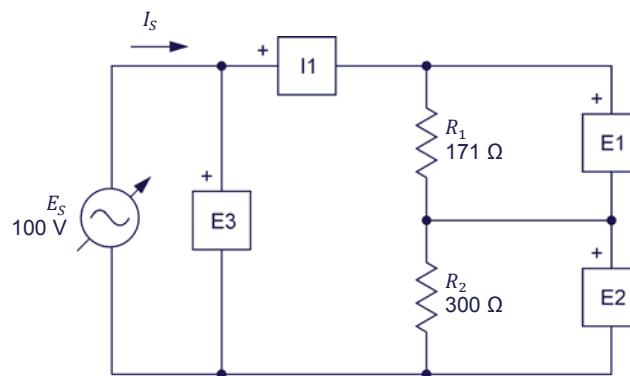

Figure 1-9. AC circuit containing two resistors connected in series.
24. Set up the circuit shown in Figure 1-9. To obtain the resistor arrangement of Figure 1-9, make the necessary connections and switch settings on the Resistive Load (refer to Appendix C if necessary). Use inputs *I1*, *E1*, *E2*, and *E3* of the Data Acquisition and Control Interface to measure the source current  $I_S$ , voltage  $E_{R1}$ , voltage  $E_{R2}$ , and source voltage  $E_S$ , respectively.